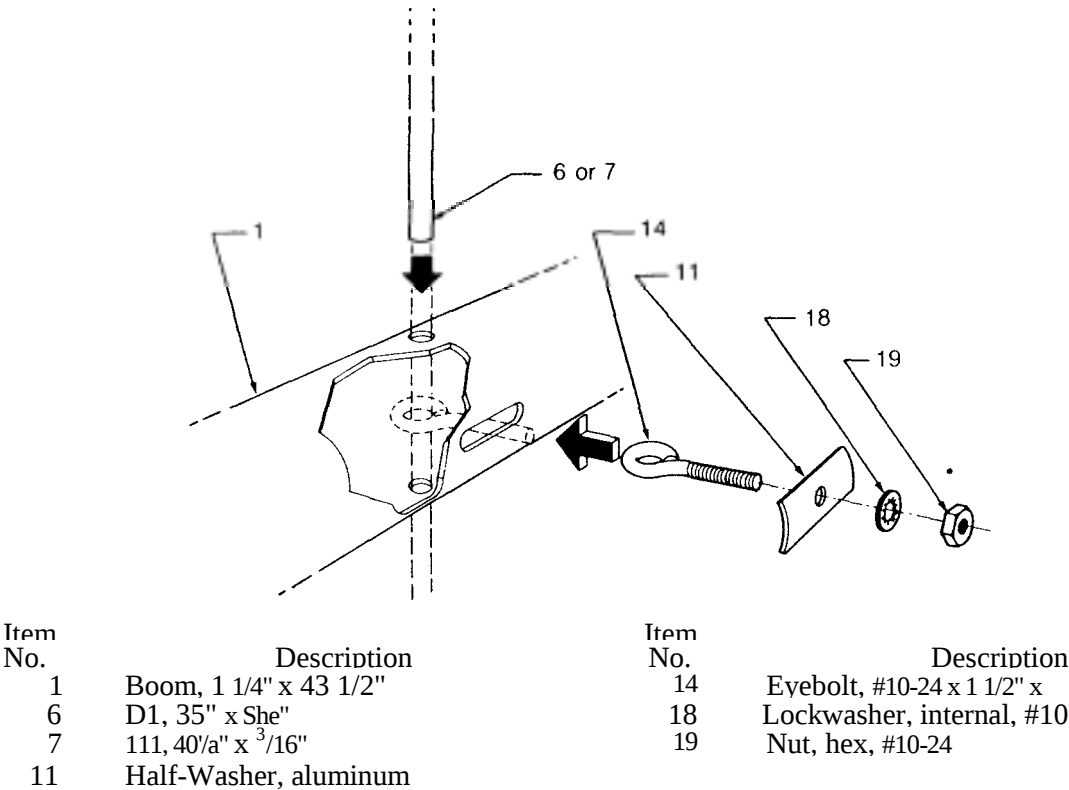

Figure 5 - Detail A Parasitic Element Attachment
NOTE: If 50 ohm coaxial cable is used to feed the antenna, select the supplied balun at this time. Wrap the balun with tape at three locations as shown in Figure 5, Detail B.
Use the #10-24 x 2 1/2" bolt to fasten the element-to-boom insulator to the boom. Refer to Figure 5, Detail B.
Use the two (2) #10-24 x 1¹/₄" bolts to assemble the Driven Element as shown in Figure 5, Detail B. Pay particular attention to the connections of the beta rod, balun and feedline.